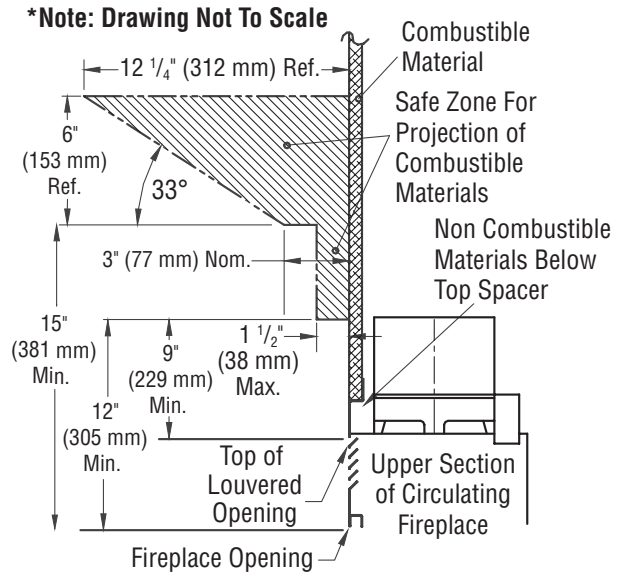

**Figure 3 - Hearth Extension**
Thermal conductivity "k" of materials can be obtained from manufacturer or supplier of noncombustible material. If hearth extension is to be covered, use noncombustible material such as tile, slate, brick, concrete, metal, glass, marble, stone, etc. Provide a means to prevent hearth extension from shifting and seal gap between fireplace frame and hearth extension with a non-combustible material such as sand-cement grout (see Figure 3, page 6).
**⚠ WARNING: Hearth extension is to be installed only as shown in Figure 3.**